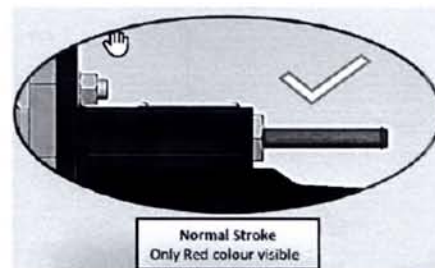

Figure 3: Piston Normal Stroke Condition
- 5) If, after the second Full-service application, the piston indicator still extended more than 75mm (Two colors showing – see Figure 3), then the BMBS and the bogie have cause for attention. Check/Measure/Test the following:
- a. Check if all four (4) Brake Blocks and wheels are outside the wear limit. Replace Brake Blocks and wheels that are outside the wear limit.